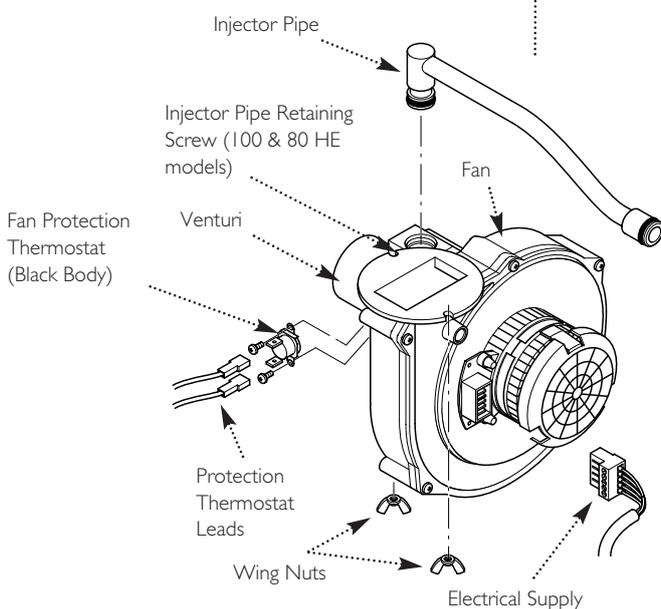

Fig. 66
13.21 Fan and Fan Protection Thermostat (Fig. 66)